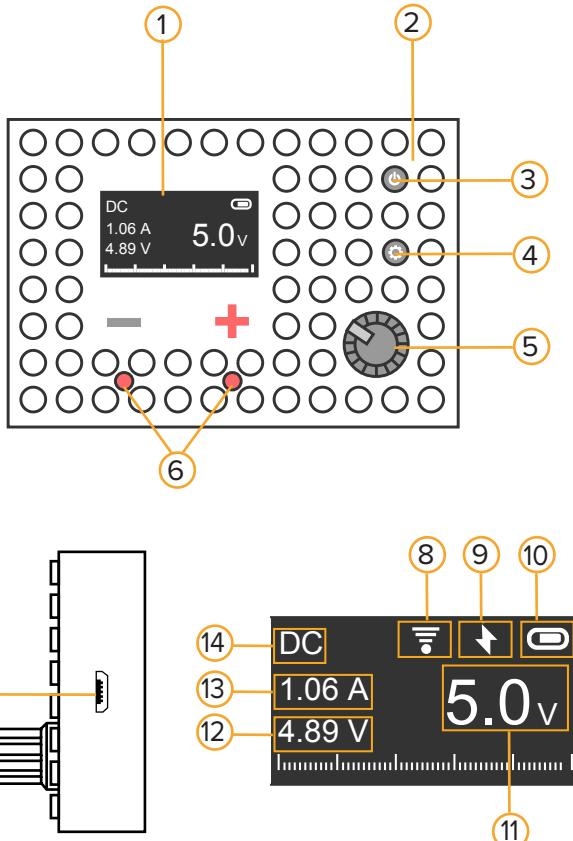
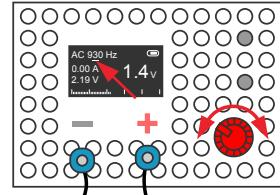

Figure 5.1
figure 5.4
- The device is switched on with the power button (**4 in Figure 5.1**). If you press this button again, the device will turn off.
- To charge the PSU, you must connect it with a micro-USB cable to any high-quality USB-compatible source with an admissible current of **0.5-2 A**. A hidden red light-emitting diode (**2 in Figure 5.1**) will light during charging. The short-term flashing of this light-emitting diode is normal.
- After the PSU has been switched on, it is in the DC mode. This is shown on the device with the DC symbol in the upper left corner of the display (**14 in Figure 5.1**).
- The voltage is set by rotating the regulator (**2 in Figure 5.1**). If no overload occurs, then the device is a voltage source.
- If the current exceeds **1 A**, the device will switch to overload mode. In overload mode, the measured voltage and current (**12 and 13 in Figure 5.1**) will flash. After the current has been reduced to 1 A, the device will return to normal mode.
- In overload mode, the voltage at the terminals will be lower than the EMF set by the regulator (**5 in Figure 5.1**). In this mode the battery is discharged noticeably faster; in particular, the device may switch off, even though there is still enough charge for operation in normal mode. The overload mode is completely safe for the device.
- To switch to AC mode, briefly press the mode button (*4 in Figure 5.1*). This mode will be shown on the device with the AC symbol in the upper left corner of the display (*14 in Figure 5.1*). If you briefly press the mode button again, the PSU will switch back to DC mode.
- After switching to the AC mode, the regulator (*4 in Figure 5.1*) will set the voltage value.
- If you press and turn the regulator to the right (*5 in Figure 5.1*), the PSU will switch to the mode of precise frequency control (*Figure 5.4*).
- By turning the regulator (*5 in Figure 5.1*) while it is pressed, you can select the number you want to change: after it is released, the regulator will change the selected number. To return to rough editing, you need to press the regulator and turn it to the left.
- If the current exceeds **0.2 A**, the device will switch to overload mode. In overload mode, the measured voltage and current (*12 and 13 in Figure 5.1*) will flash. After the current has been reduced to **0.2 A**, the device will return to normal mode.
- In overload mode, the voltage at the terminals will be lower than the EMF set by the regulator (*5 in Figure 5.1*). In this mode the battery is discharged noticeably faster; in particular, the device may switch off, even though there is still enough charge for operation in normal mode.
- To access the settings menu, press and hold the mode control button (*4 in Figure 5.1*) for 3 seconds.
- To move around the menu, use the regulator or briefly press the mode control button (*5 and 4 in Figure 5.1*). To select a menu item, press the regulator or press and hold the mode control button.
- In order to enter the configuration mode, you need to connect the device to the charger, turn it on with the power button (*3 in Figure 5.1*), then press the mode control button (*4 in Figure 5.1*) and hold it for 3 seconds.
- To move around the menu, use the regulator or briefly press the mode control button. (*5 and 4 in Figure 5.1*).